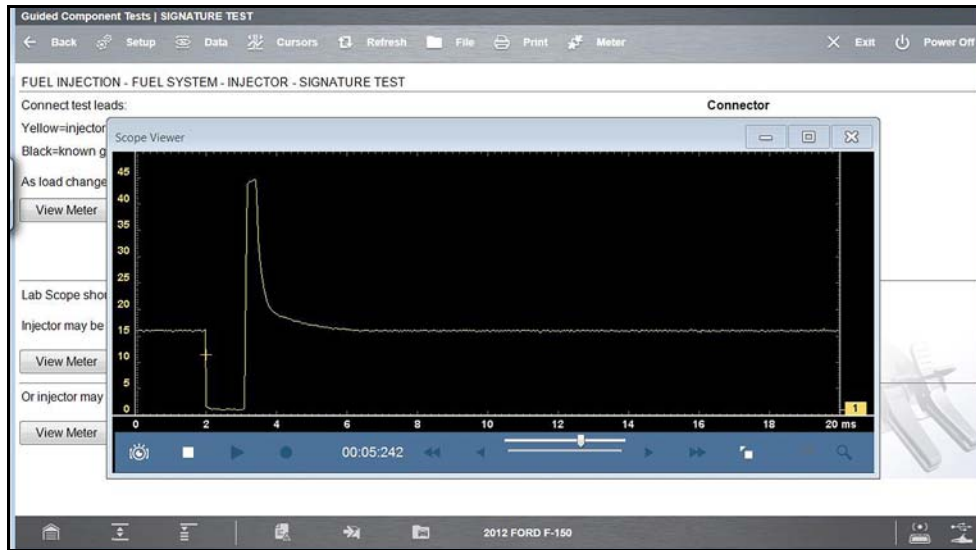

Figure 8-8 Sample meter view in a separate window
2. Select the **Meter** icon a second time and the meter will open as a separate window (Figure 8-8). This window can remain open if you switch to the Scan Module and can be accessed from the Windows toolbar at the bottom of the screen. You can also resize and reposition the meter window on the screen.